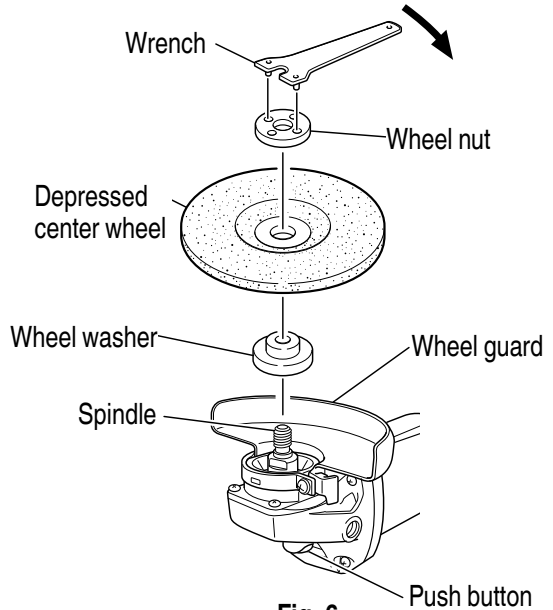

Fig. 6
ASSEMBLING AND DISASSEMBLING THE DEPRESSED CENTER WHEEL (Fig. 6)
1. Assembling (Fig. 6)
Tighten the wheel nut by using the supplied wrench as shown in Fig. 6.